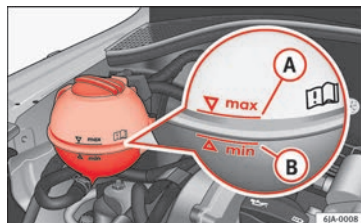

Fig. 208 Engine compartment: coolant fluid tank.
- Read off the coolant level on coolant expansion tank » **Fig. 208**. When the engine is cold, the coolant should be between marks **B** (min.) and **A** (max.). When the engine is hot, it may be slightly above mark **A** (max.).
- Cover the cap on the coolant expansion tank » **Fig. 208** with a cloth and **carefully** unscrew the cap.
Never fill the coolant tank above mark **A** (max.) » **Fig. 208** Excess coolant is forced out of the cooling system through the over-pressure valve in the filler cap of the expansion tank when the engine heats up.